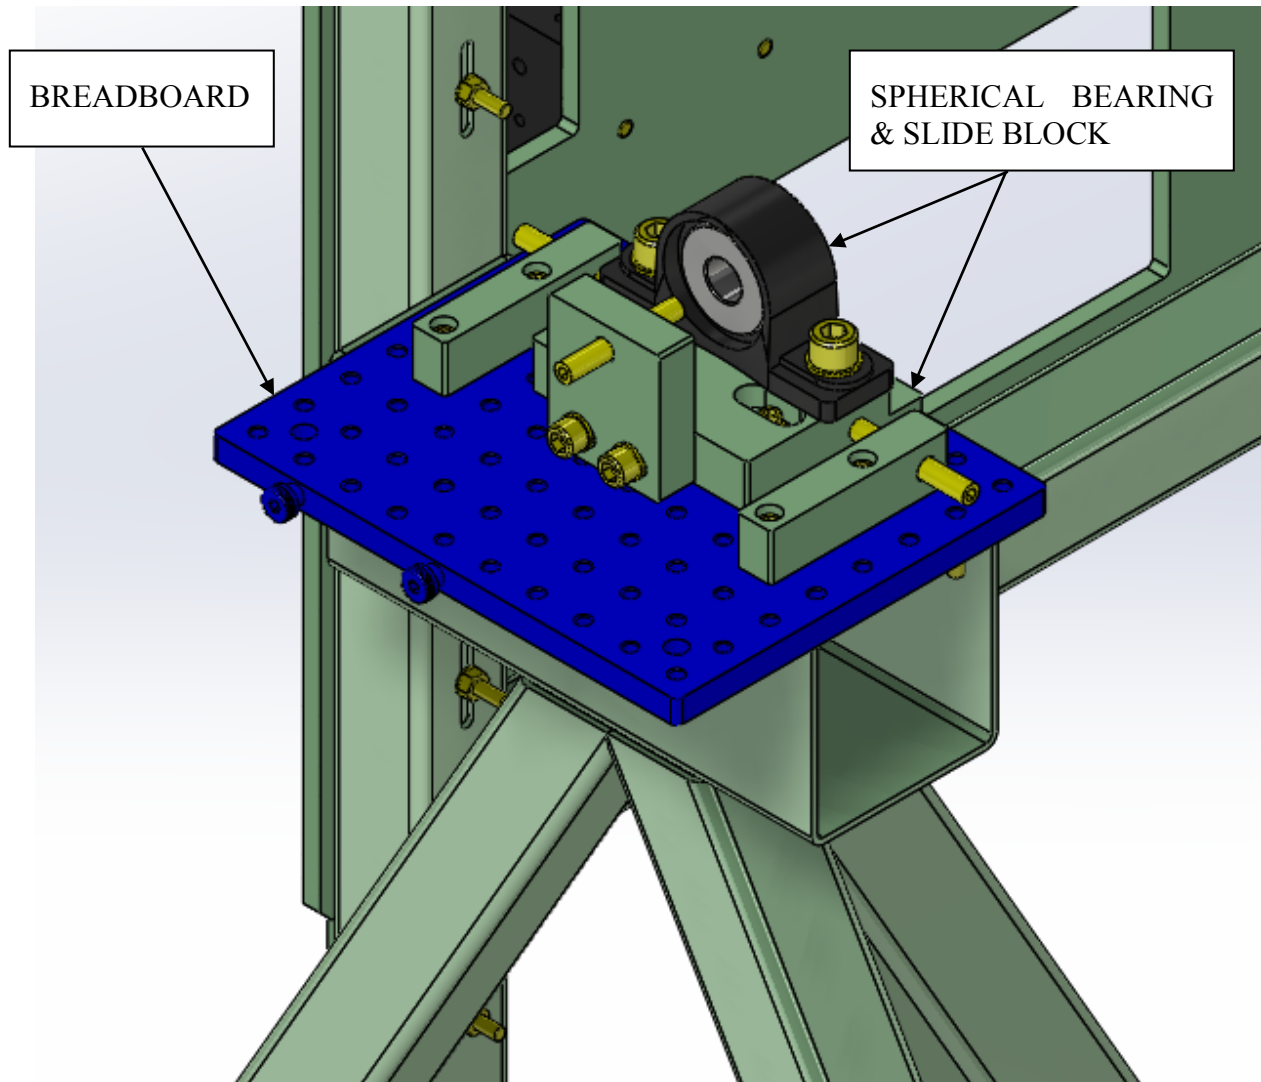

Figure 4 Spherical bearings are mounted on slide blocks on the breadboards of either side of the Cradles.
5. Remove the slide blocks with the spherical bearings from both breadboards, **Figure 4**, of the East Cradle. Lift them vertically to free their blind slots (not visible in view) from the dowel pins (not visible in view) of the breadboards.